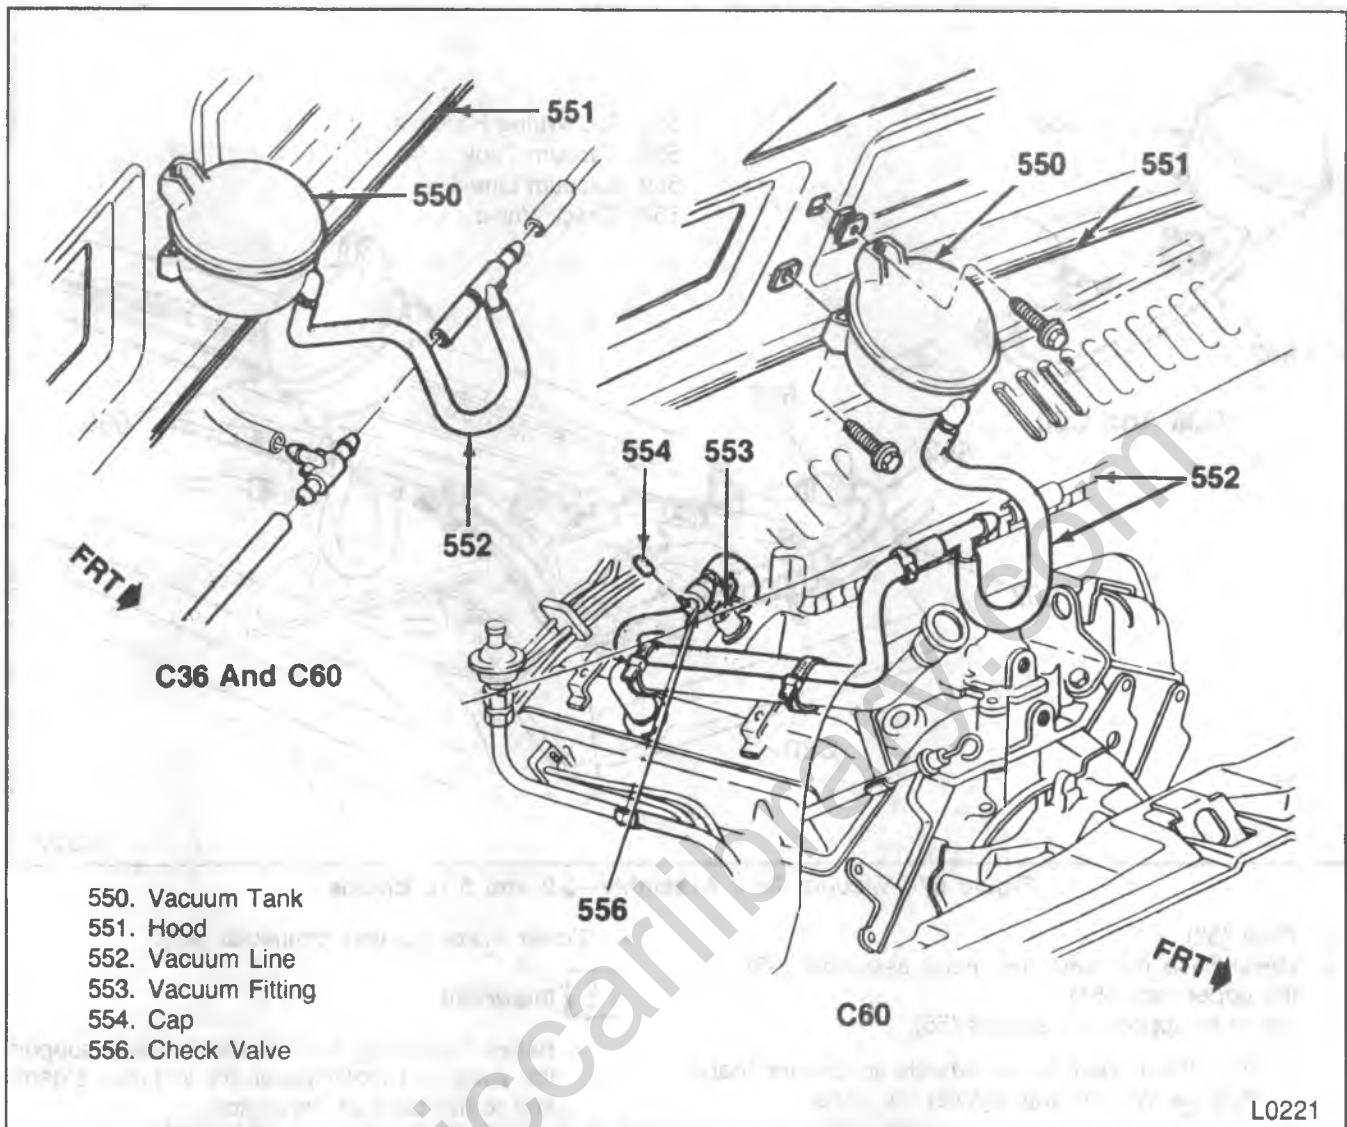

Figure 66—Vacuum Tank Assembly—4.3L Engine
Remove or Disconnect (Figures 66, 67, 68 and 69)
Install or Connect (Figures 66, 67, 68 and 69)
1. 4.3L Engine (figure 66).